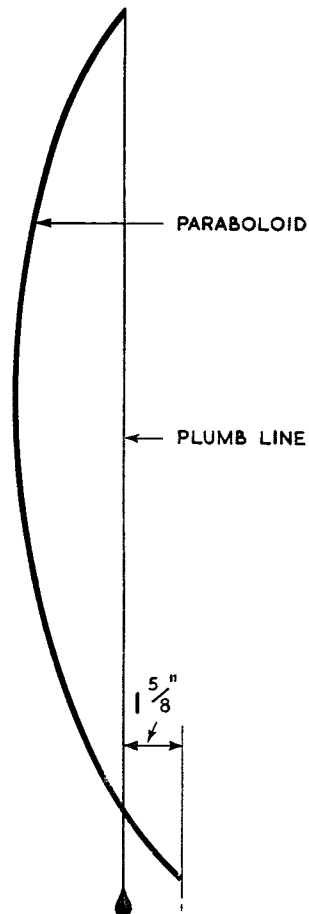

Fig. 18. Correct setting of aerial tilt
- (1) Attach a plumb line to the outer edge of the top of the reflector as shown in fig. 18.
- (2) Check that the line passes a point $1\frac{5}{8}$ in. behind the outer edge of the bottom of the reflector.
- (3) Repeat (2) with the aerial facing in different directions.